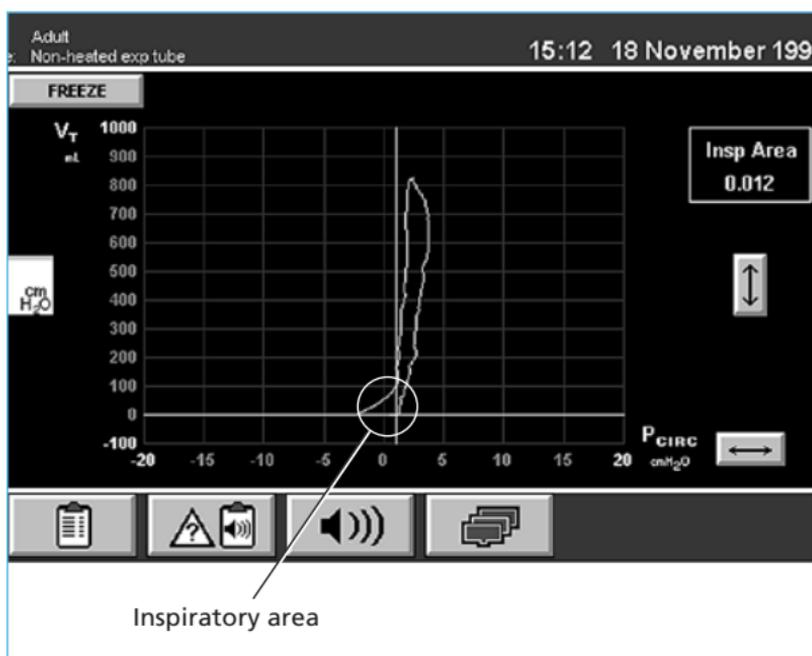

FIGURE 14.
- If the pressure-volume loop is selected, the loop for the next full breath is displayed, then updated every other breath. The inspiratory area is calculated based on the area inside the loop to the left of the baseline (see Figure 14).